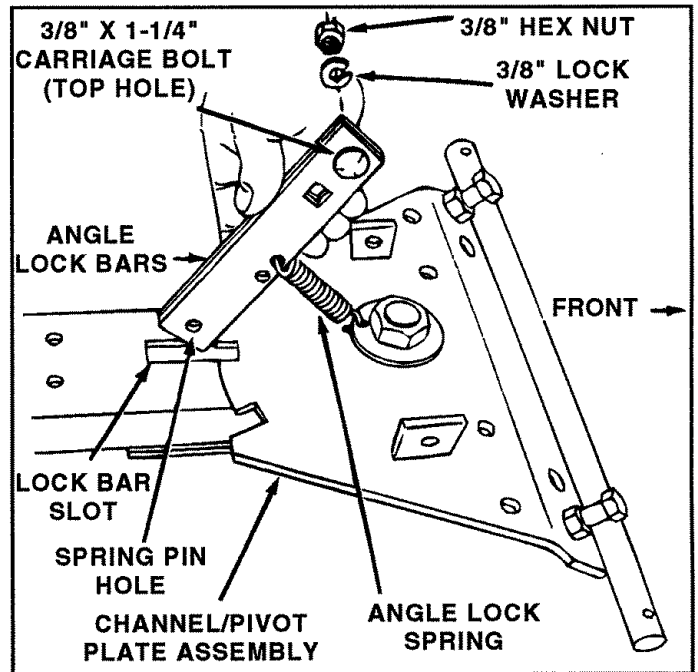
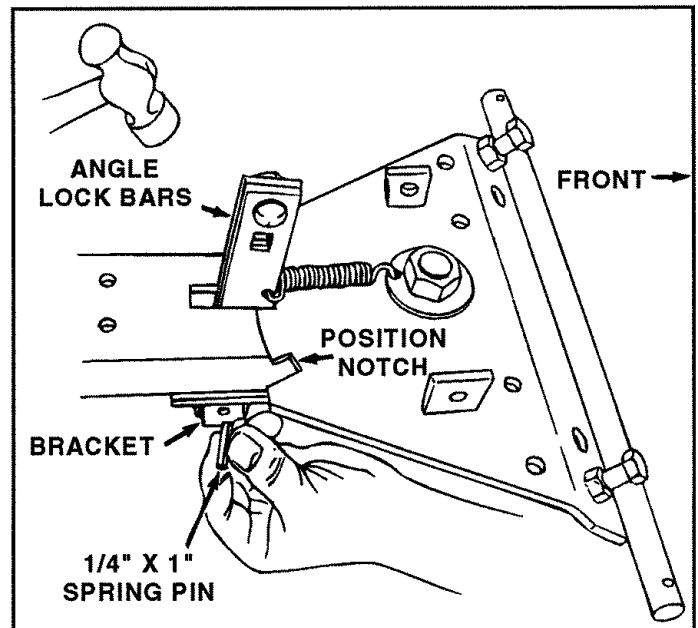

FIGURE 3
FIGURE 4
2. Assemble the two angle lock bars together as shown in figure 3, using one 3/8" x 1-1/4" carriage bolt down through the top holes with a 3/8" lock washer and a 3/8" hex nut underneath. **Do not tighten at this time.**
3. Assemble the offset end of angle lock spring into small holes in angle lock bars as shown in figure 3. Slide lock bars through lock bar slot until spring pin hole is aligned with bracket on back side. See figure 4. Using a hammer drive 1/4" x 1" spring pin into lock bars until flush with bracket. See figure 4. Tighten nut in angle lock bars which was left loose in step 2.